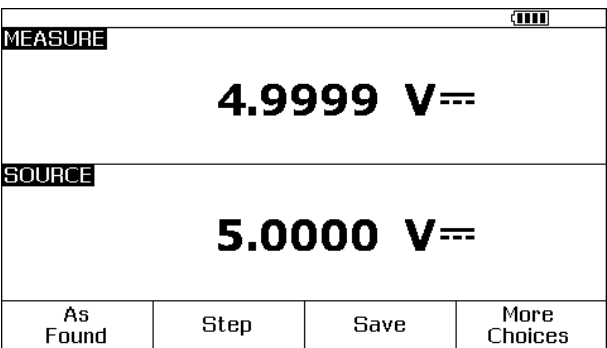

Figure 3. Measure/Source Example
6. Push  to go to the split-screen, simultaneous MEASURE/SOURCE mode. The Product simultaneously sources dc volts and measures dc volts. The measurement readings are shown on the top display, and the active source value on the bottom display as shown in Figure 3.